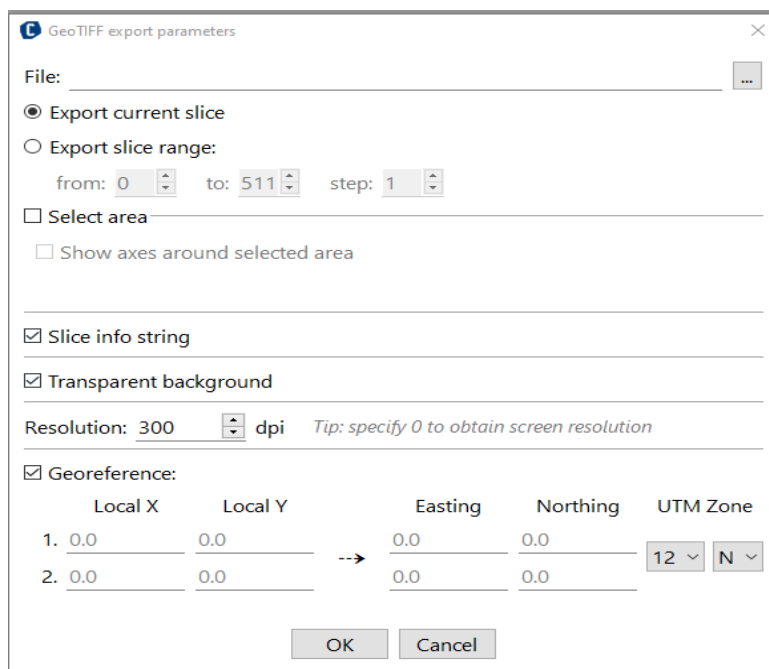

Figure 91 Georeferencing a Geotiff export. Two local coordinates and their respective UTM coordinates must be specified.
**Georeference:** If the project was not acquired using a GPS and combined into UTM, it has to be referenced to a location. This is done by specifying two coordinate in the local system and their respective UTM-coordinates, see Figure 91. The most convenient way of doing this is by having surface markers, with known locations, defined during the acquisition process.